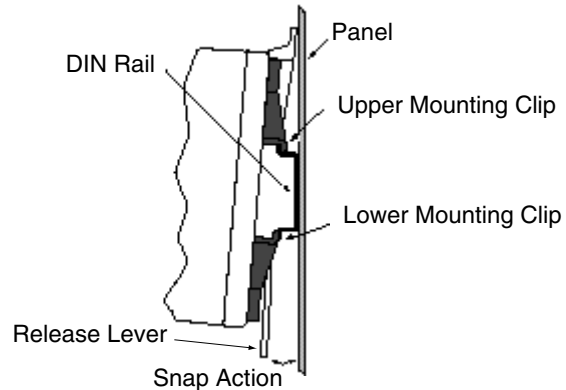

Figure 2b — Series 146 side view mounting.
1. Place the Series 146 upper mounting clip on the top edge of the DIN rail. See Figure 2b on this page.